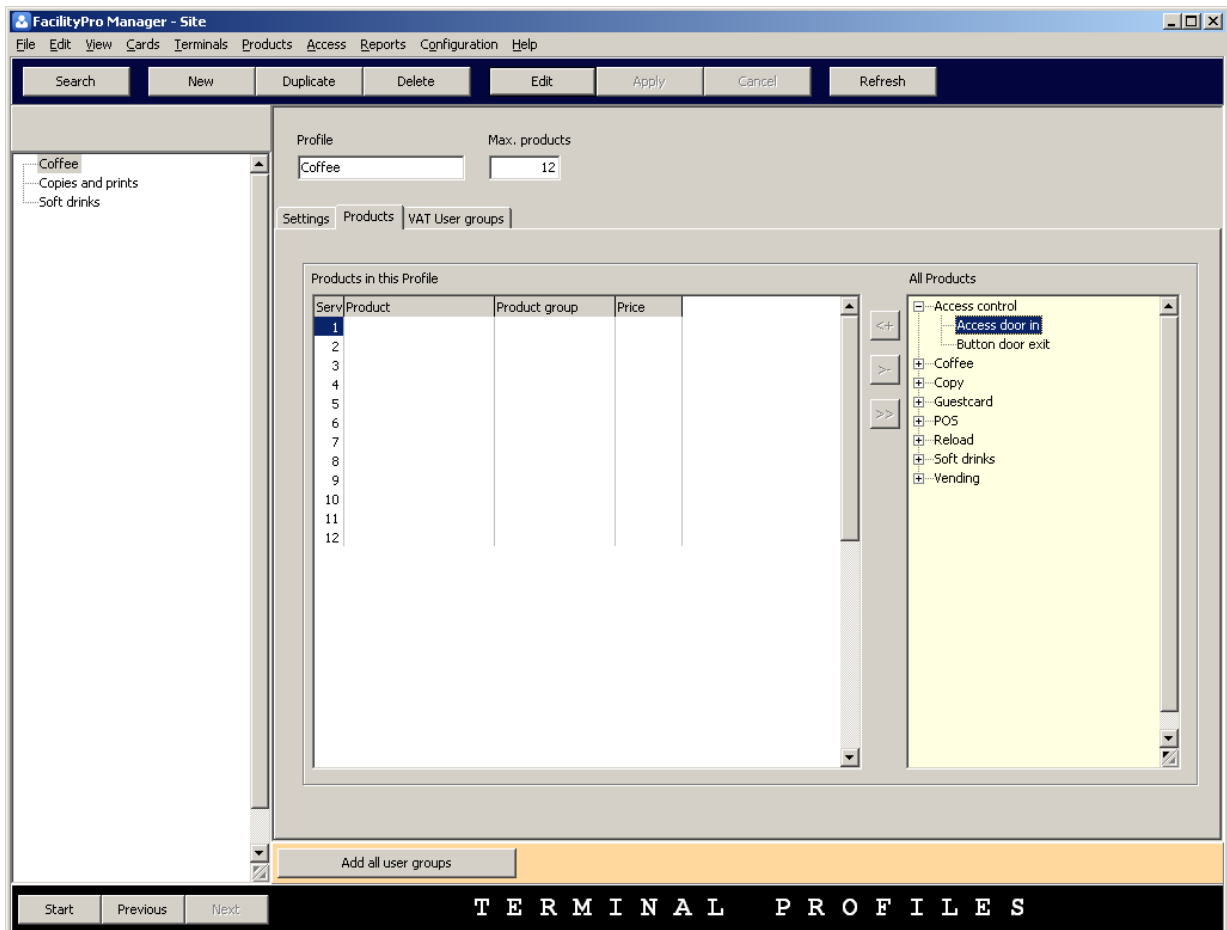

Figure 5-2 The tab 'Products' of the terminal profiles data screen
5. Click the tab 'Products'. You will see the tab 'Products' (Figure 5-2). On the right of the tab you will see a list of products known to FacilityPro Manager, grouped by product group. On the left, you will see a list (which might be empty) of products belonging to this terminal profile. The length of this list is equal to the value of the field 'Max. products' of this terminal profile. Each item on this list refers to a different service slot of the dispensers. The topmost item on the list is the product available at dispenser slot 1 of the dispensers, etc.